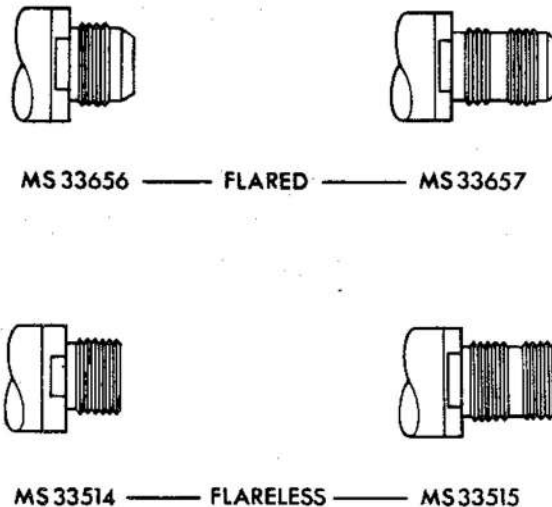

Fig. 9 Couplings - identity of thread forms
6. Through bulkhead couplings to suit most applications are available with threads to match flared and flareless hose fittings. Mostly designed for quick release and self sealing properties, these couplings enable the retention of airframe structural integrity whilst allowing the shortest possible fluid lines. Bulkhead mounting is achieved by the use of fixed bosses, flanges, or jam-nuts according to the design requirement. Fig. 9 identifies the thread styles referred to in Table 1 which lists the general data for the various types of coupling available. Coupling halves can be obtained separately or as an assembly. Part numbers are listed in Table 2.